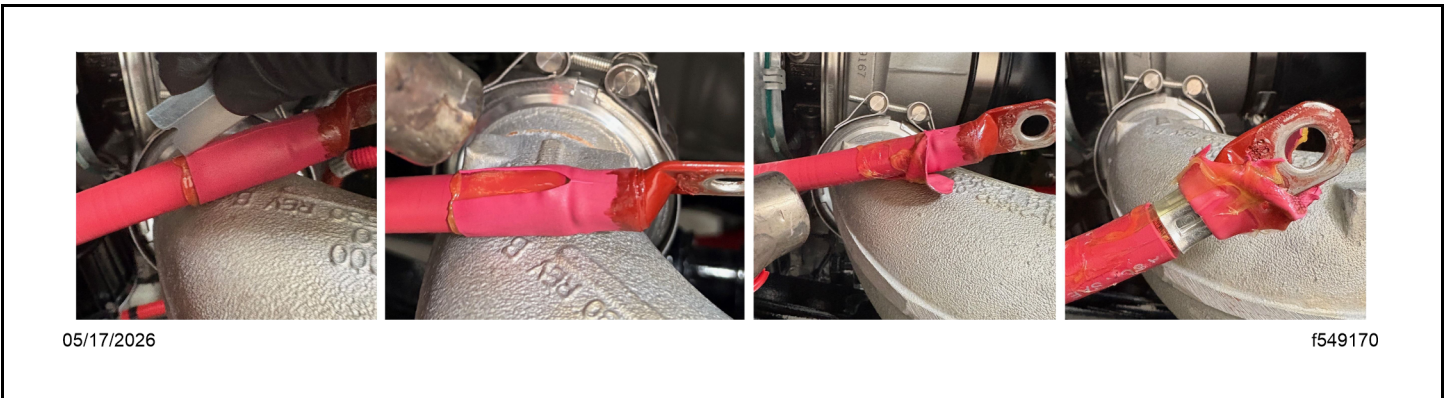

Fig 59, Heat Shrink Removal
- b. Remove the original heat shrink. To do so, heat it, score it, and continue to heat it until the score splits and the adhesive softens. See Fig. Fig. 59.